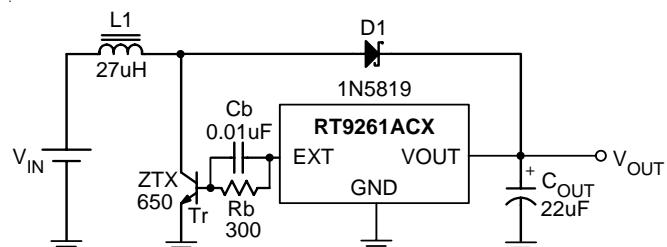

Figure 2
**Electrical Characteristics** (Refer to Figure 2)